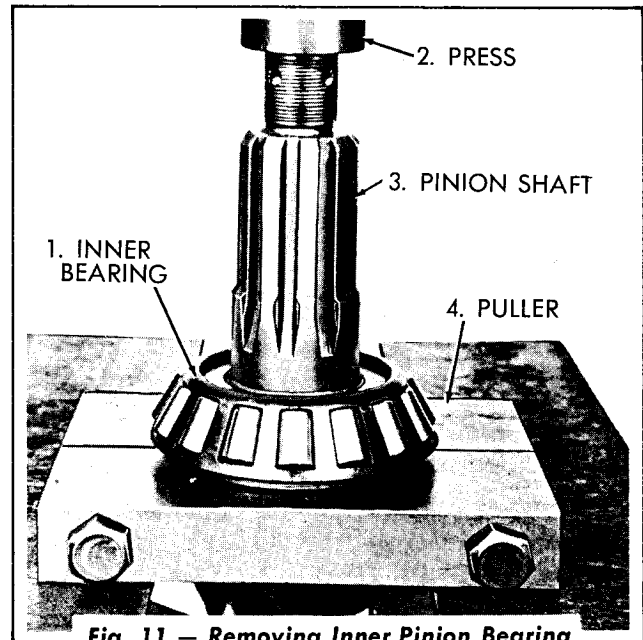

Fig. 11 — Removing Inner Pinion Bearing from Pinion Shaft
4. Remove the inner tapered bearing from the shaft as shown in Fig. 11.